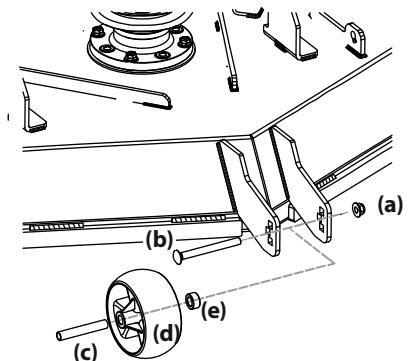

Figure 12
- Remove the lock nut (a) securing one of the front gauge wheels to the deck. Remove the shoulder screw (b), tube spacer (c) and shoulder spacer (e) to remove the wheel (d). See Figure 12.